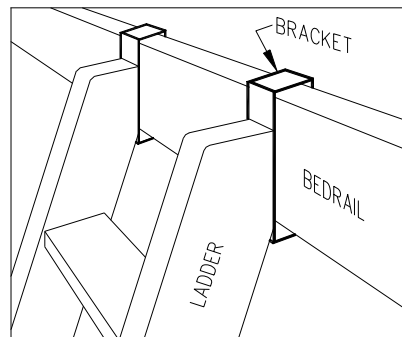

Figure 3: Angled Ladder Attachment
Step 10: Attach the **Ladder**. **For Flat** Ladder, set notch on bottom bedrail and loosen top bracket. Set bracket against bedrail and tighten. **For Angled Ladder**, hook the bracket over the Bedrail (Fig. 3).